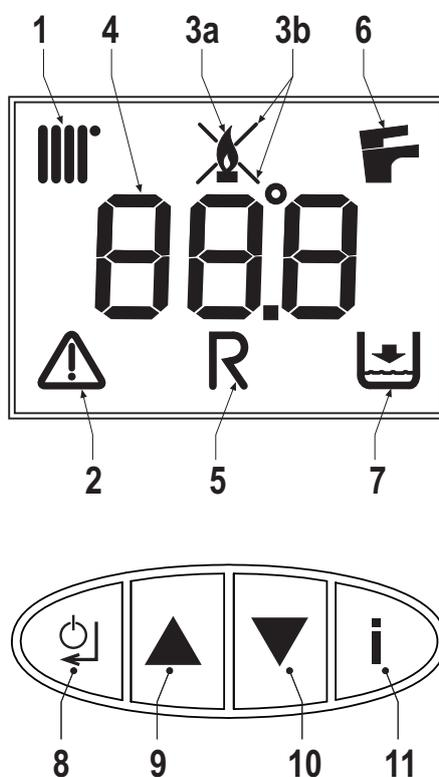

fig. 1 - Control panel
A heating demand (generated by Request Contact, Room Thermostat or Remote Timer Control) is indicated by activation of the radiator (detail 1 - fig. 1).
The multifunction display (detail 4 - fig. 1) shows the heating sensor temperature and, during heating standby time, the message "d2".
A DHW demand (generated by drawing hot water) is indicated by activation of the faucet (detail 6 - fig. 1).
The multifunction display (detail 4 - fig. 1) shows the DHW sensor temperature and, during DHW standby time, the message "d1".
Press the on/off button (detail 8 - fig.1) for 5 seconds.
When the device is turned off, the PCB is still powered. Domestic hot water and heating are disabled. The frost protection system remains activated. To switch the device on again, press the on/off button (detail 8 - fig.1) for 5 seconds.
To access the user settings menu, press the Info button (detail 11 - fig. 1).
Press the Info button (detail 11 - fig. 1) until displaying the parameter **u01** of the user settings menu.
Press Enter (detail 8 - fig. 1): the actual value of the parameter **u01** is displayed.
Use the buttons (details 9 and 10 - fig. 1) to adjust the temperature from a min. of 30°C to a max. of 80°C.
Press Enter (detail 8 - fig. 1) to confirm the setting.
Then press the Info button (detail 11 - fig. 1) until exiting the menu.
Press the Info button (detail 11 - fig. 1) until displaying the parameter **u02** of the user settings menu.
Press Enter (detail 8 - fig. 1): the actual value of the parameter **u02** is displayed.
Use the buttons (details 9 and 10 - fig. 1) to adjust the temperature from a min. of 10°C to a max. of 65°C.
Press the Info button (detail 11 - fig. 1) until displaying the parameter **u03** of the user settings menu.
Press Enter (detail 8 - fig. 1): the actual value of the parameter **u03** is displayed.
Use the buttons (details 9 and 10 - fig. 1) to set Summer mode (0) or Winter mode (1).
Press the Info button (detail 11 - fig. 1) until displaying the parameter **u04** of the user settings menu.
Press Enter (detail 8 - fig. 1): the actual value of the parameter **u04** is displayed.
Use the buttons (details 9 and 10 - fig. 1) to set Economy (0) or Comfort (1) mode.
Then press the Info button (detail 11 - fig. 1) to exit the menu.
Press the Info button (detail 11 - fig. 1) until displaying the parameter **u05** of the user settings menu.
Press Enter (detail 8 - fig. 1): the actual max power step is displayed.
Use the buttons (details 9 and 10 - fig. 1) to vary the max power: from 1 (min Step) to 5 (max Step).
Then press the Info button (detail 11 - fig. 1) to exit the menu
Press the Info button (detail 11 - fig. 1) until displaying the parameter **u06** of the user settings menu.
Press Enter (detail 8 - fig. 1): the actual value of the parameter **u06** is displayed.
Use the buttons (details 9 and 10 - fig. 1) to vary the operation methodology: